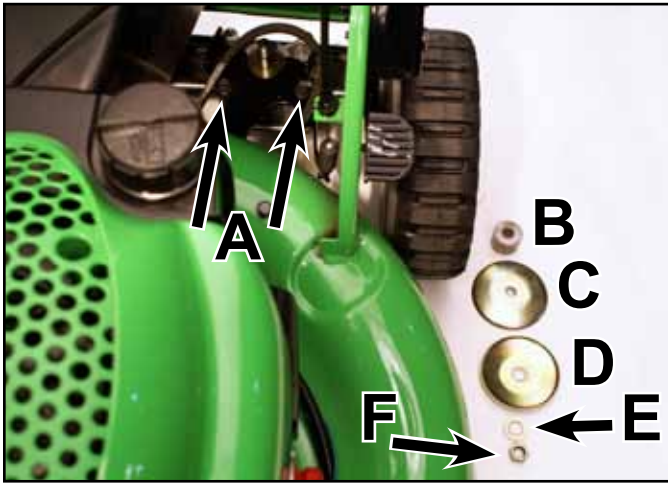

Fig 103 PICT-1926a
15. Remove the nut, washer, 2 pulley halves, and spacer from the transmission input shaft. Remove 2 screws securing the belt guide to the transmission (Fig. 103).